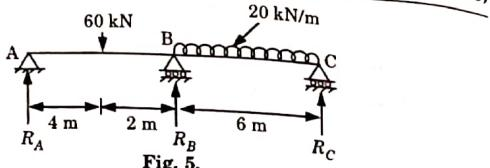

Fig. 5.
- b. Analyse the following continuous beam shown in Fig. 5 using method of consistent deformation. Draw the bending moment diagram.
- ii. Therefore in the continuous beam ABC (Fig. 5).